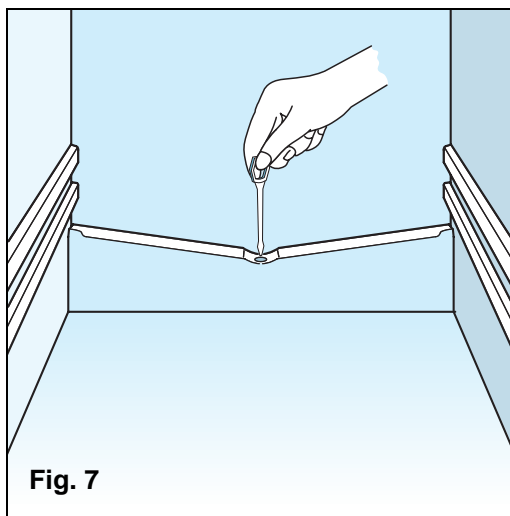

Fig. 7
- Is the defrost water drain blocked? (Fig. 7).